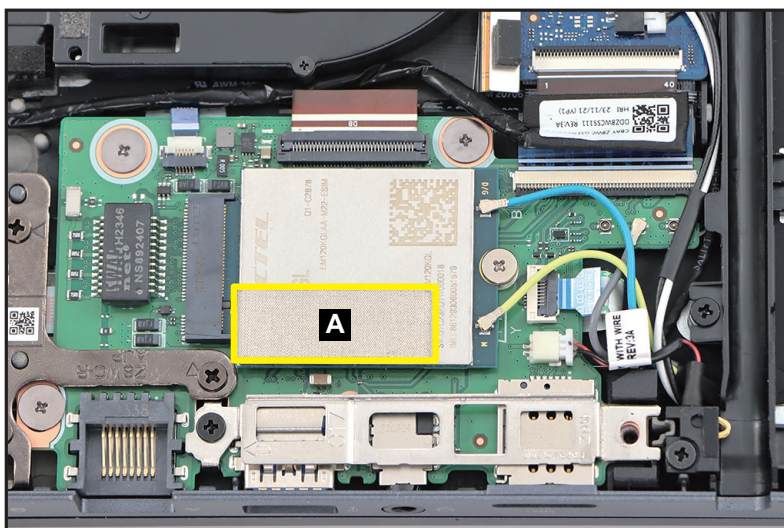

Figure 1-14. LTE Module Removal
1. Detach the gasket (A) from the LTE module (Figure 1-14).